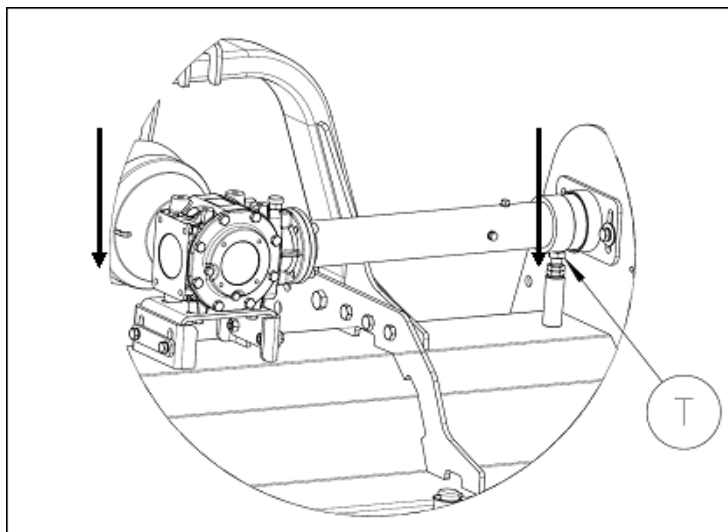

Figure 29
3. Loosen the tensioning screw T in a way to lower the gearbox and the extension parallel to the machine chassis (figure 29);